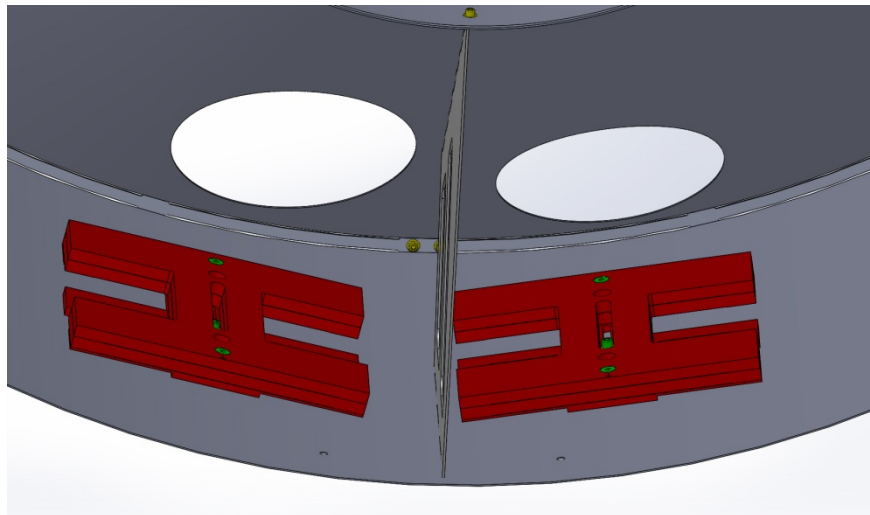

Figure 28: Balance Weights
1. Assemble Balance Weights on baffle using Balance Weight Assembly Drawing D1002402. Variable Balance Weights (D1002417) are determined by LIGO-DOCUMENT-E1300420. Attach weights to the top of the bottom cylinder with the engraved arrow pointing away from the Face Plates (Figure 28) until the spring blades pull away from the support ring just enough so that the Bend Fixture Shims D1101341 can be removed. This should create a gap of approximately 0.263in between the top side of the blade and the inside of the support ring.